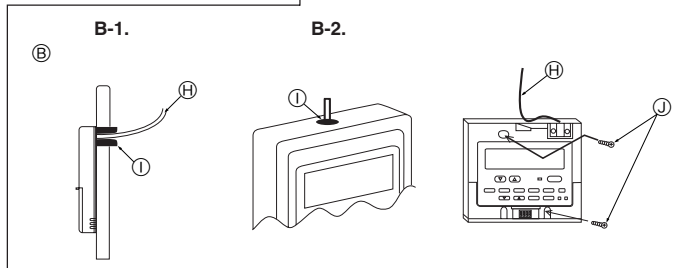

Fig. 7-3
- ① Remote controller profile
- ② Required clearances surrounding the remote controller
- ③ Installation pitch
(2) Seal the service entrance for the remote controller cord with putty to prevent possible invasion of dew drops, water, cockroaches or worms. (Fig. 7-3)
① For installation in the switch box:
② For direct installation on the wall select one of the following: